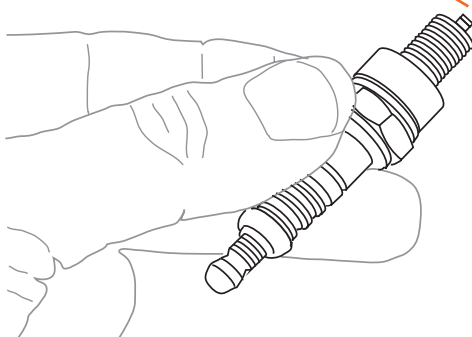

Figure 16
3. When installing a new spark plug, adjust the plug's gap to the specification on the technical specification chart. Do not pry against the electrode or the insulator, the spark plug can be damaged (see Figure 16).